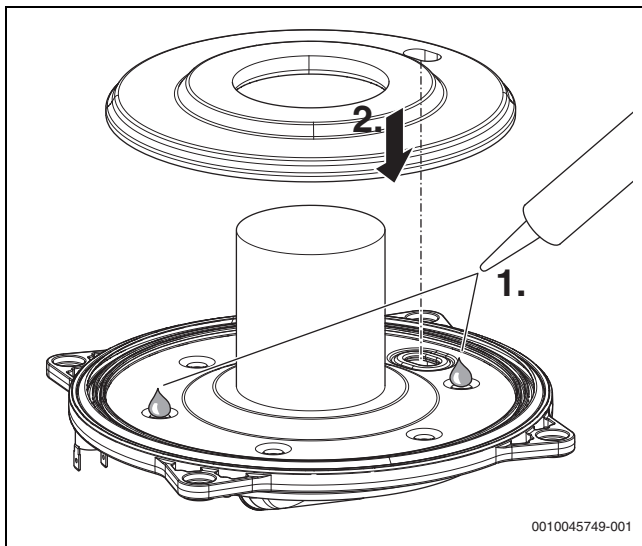

Fig. 98 Add silicone adhesive and place the new insulation
- ▶ Apply temperature-resistant silicone adhesive (high-temperature-resistant sealant >250°C) as shown in figure 98.